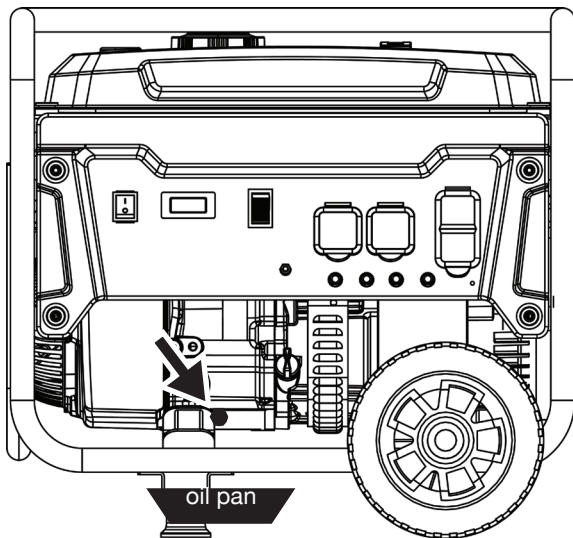

Figure 22 - Oil Drain Plug
6. Remove the oil drain plug (see Figure 22). Once removed, place the oil drain plug on a clean surface.